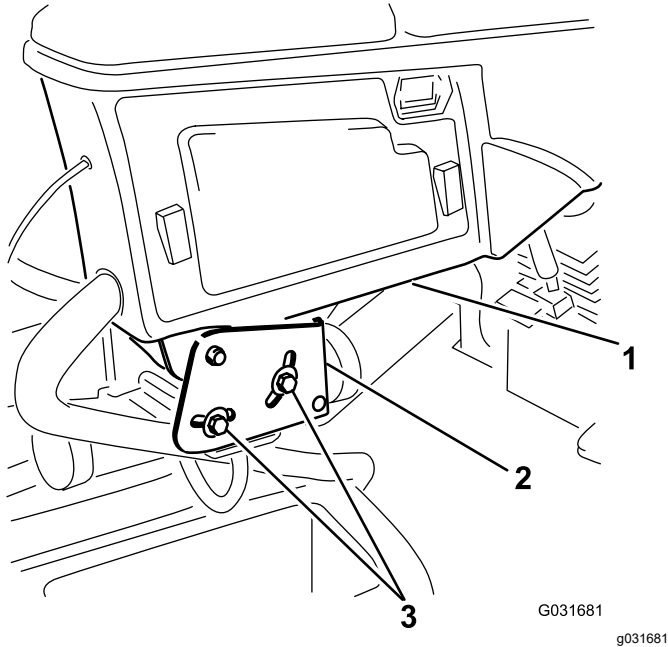

Figure 4
1. Loosen the 2 bolts securing the control arm to the retaining bracket (Figure 4).